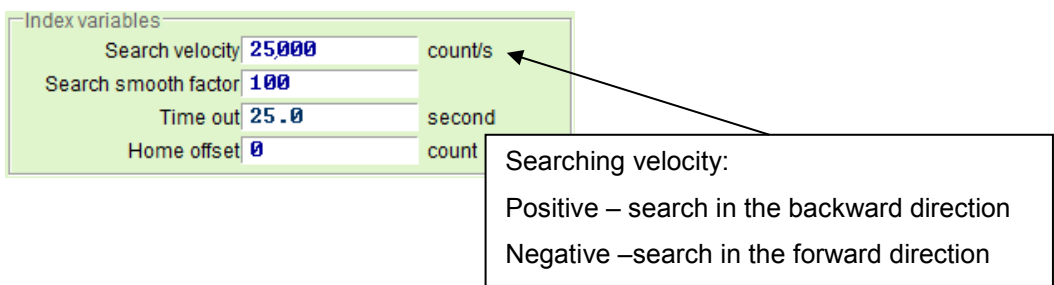

Figure 1-2 Homing variables setting
In the drive's operation system (OS), there is a function named **_X_init_exec**. This function is for homing, and is built in the drive. By using **call _X_init_exec** in the programming code, the homing method is performed by directly searching the index signal. Variables for homing can be set at the "Homing" page in the "Application center" of Lightning program, as Figure 1-2 shows.
In this sample code, **X_stop_m** was used to stop motor and **X_index_vel** was used to set the speed and direction of searching index. Take this sample code as an example. **X_stop_m = 1** is used to stop motor, and **X_index_vel** is the same as the value of “Search velocity” in Figure 1-2.